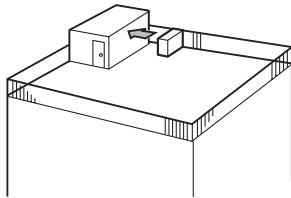

Fig. 2-4
① Face the air outlet towards the nearest available wall about 50 cm away from the wall. (Fig. 2-4)